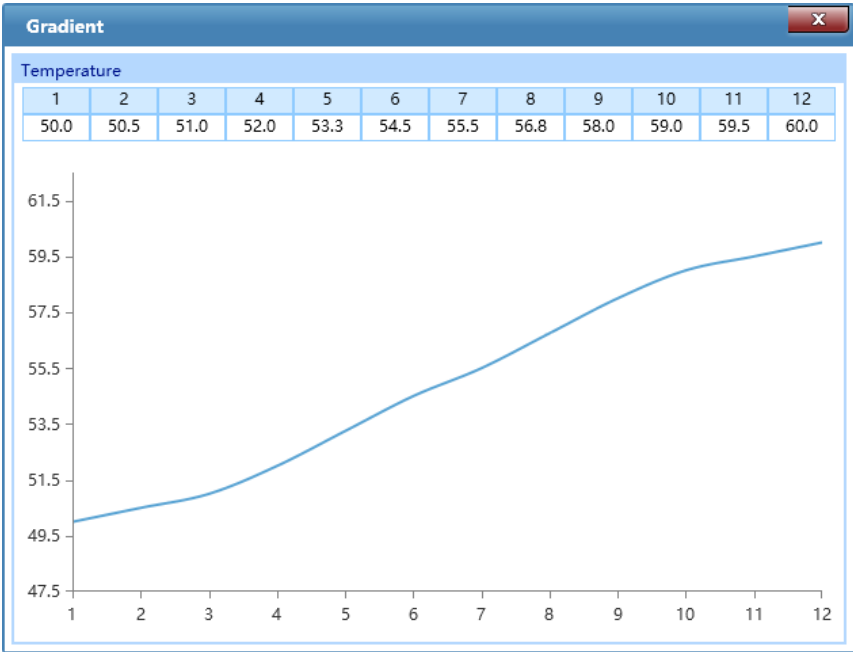

Figure D-5.6e. Step Setting Dialog Box – Gradient Temperature Details
- ▶ **Details:** User can click < *Details* > to the specific gradient temperatures of each column and the Gradient distribution, as shown in figure D-5.6e.